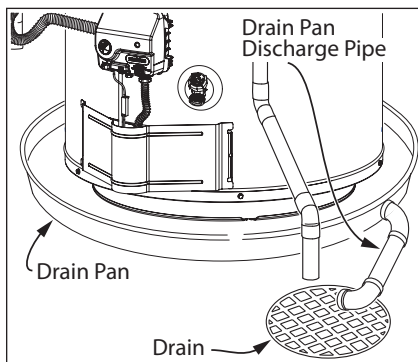

Figure 36 - Metal drain pan piped to an adequate drain.
- In a metal drain pan piped to an adequate floor drain or external to the building (Figure 36 on page 19).